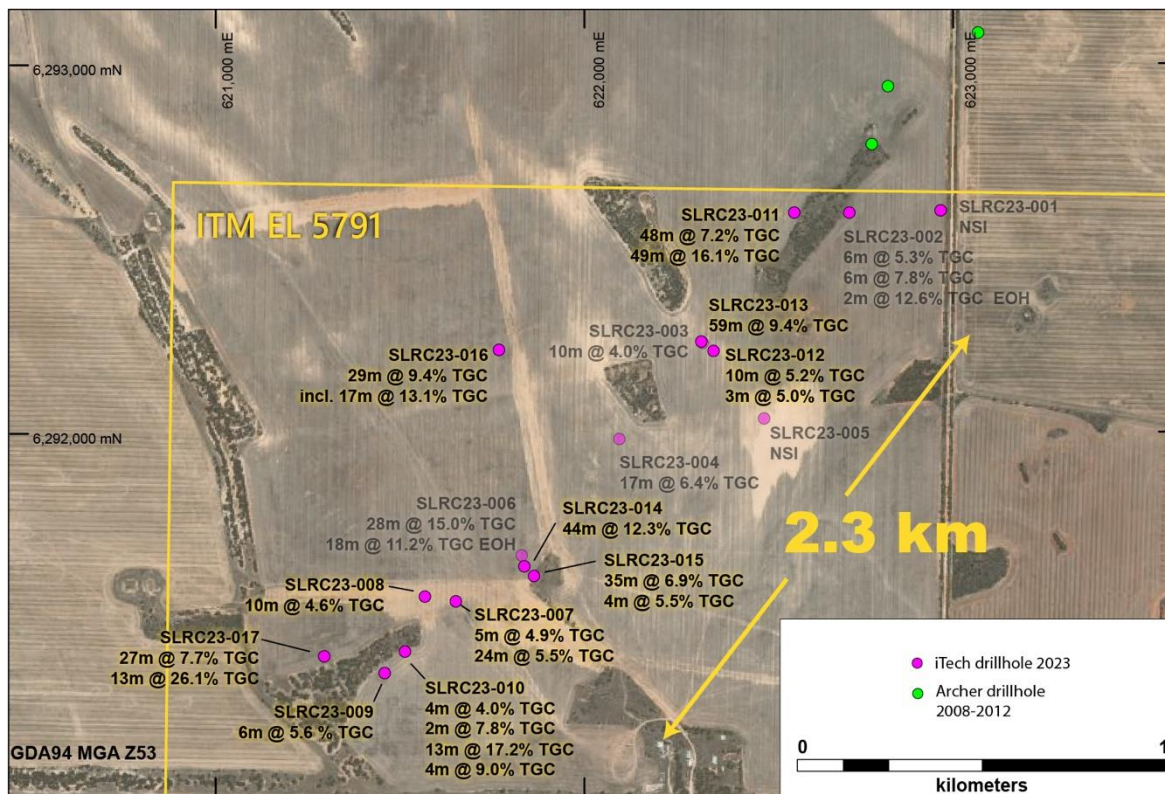

Figure 1. Drill collar plan of the southern half of the Sugarloaf Graphite Prospect showing results from the remaining 11 of 17 drill holes.
The reverse circulation (RC) drill program consisted of 17 drill holes designed to test the southern extent of a 4.5km electromagnetic anomaly at the Sugarloaf Graphite Prospect. The northern 2km area had been drill tested by Archer Materials Ltd between 2008 and 2012. The current round of drilling by iTech, has confirmed the full 4.3km extent of the Electromagnetic (EM) anomaly is caused by graphite mineralisation (Figure 3). The results from the final 11 holes at Sugarloaf demonstrate a continuation of the thick, high-grade mineralisation well into the southern half of the exploration target (Figure 1). Significant results are reported in the table below.